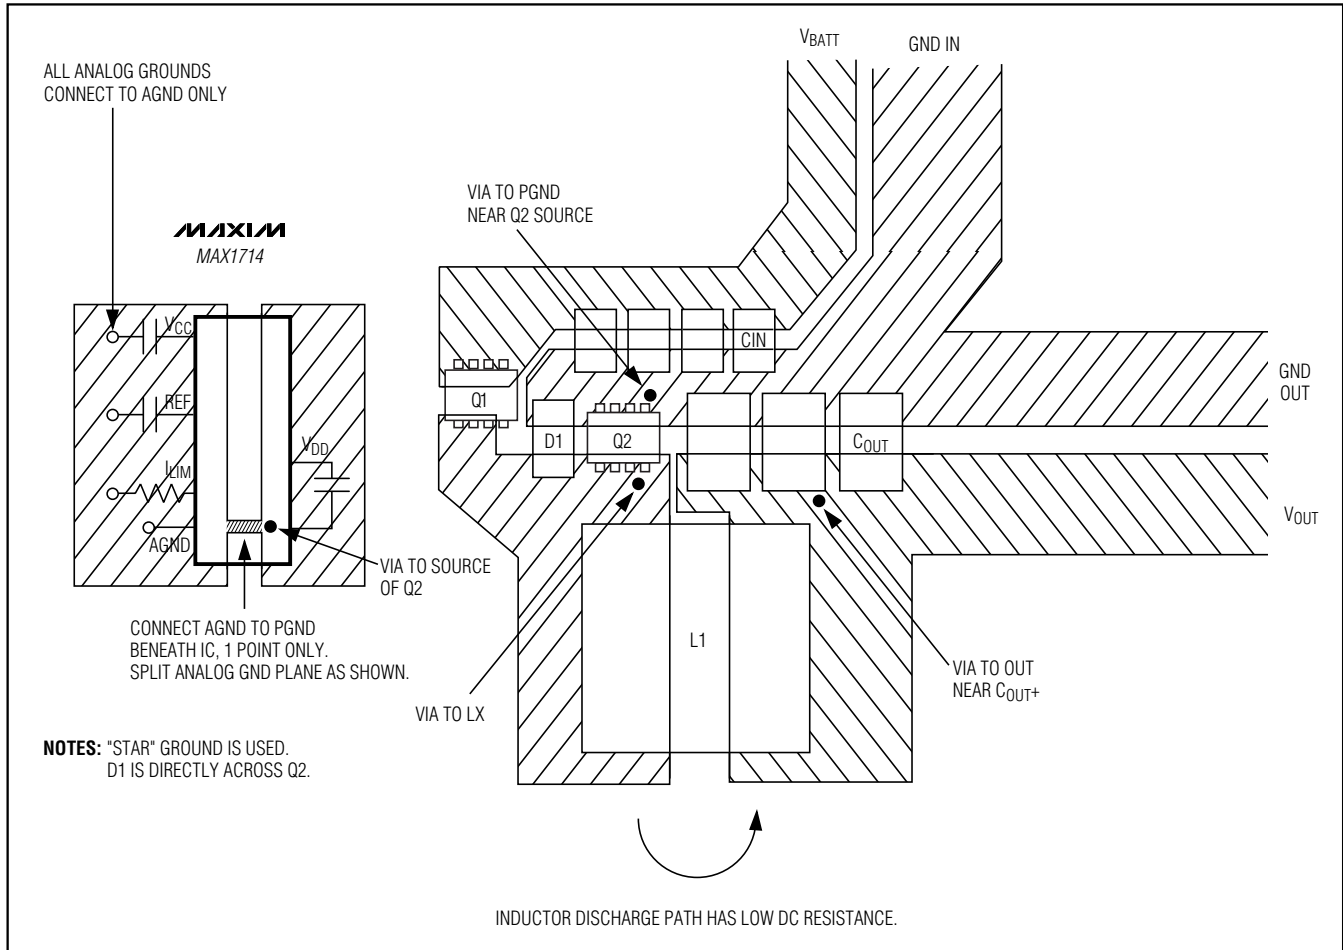

Figure 11. Power-Stage PC Board Layout Example
Careful PC board layout is critical to achieving low switching losses and clean, stable operation. The switching power stage requires particular attention (Figure 11). If possible, mount all of the power components on the top side of the board with their ground terminals flush against one another. Follow these guidelines for good PC board layout:
- 4) Make the DC-DC controller ground connections as shown in Figure 11. This diagram can be viewed as having three separate ground planes: output ground, where all the high-power components go; the PGND plane, where the PGND pin and  $V_{DD}$  bypass capacitor go; and an analog AGND plane, where sensitive analog components go. The analog ground plane and PGND plane must meet only at a single point directly beneath the IC. For the MAX1714B, this point should be the GND pin. These two planes are then connected to the high-power output ground with a short connection from  $V_{DD}$  cap/PGND to the source of the low-side MOSFET, Q2 (the middle of the star ground). This point must also be very close to the output capacitor ground terminal.